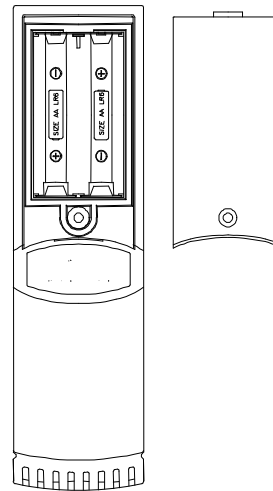

Figure 2
2. The remote temperature/humidity sensor (TX7U) and mounting bracket. (Figure 2)